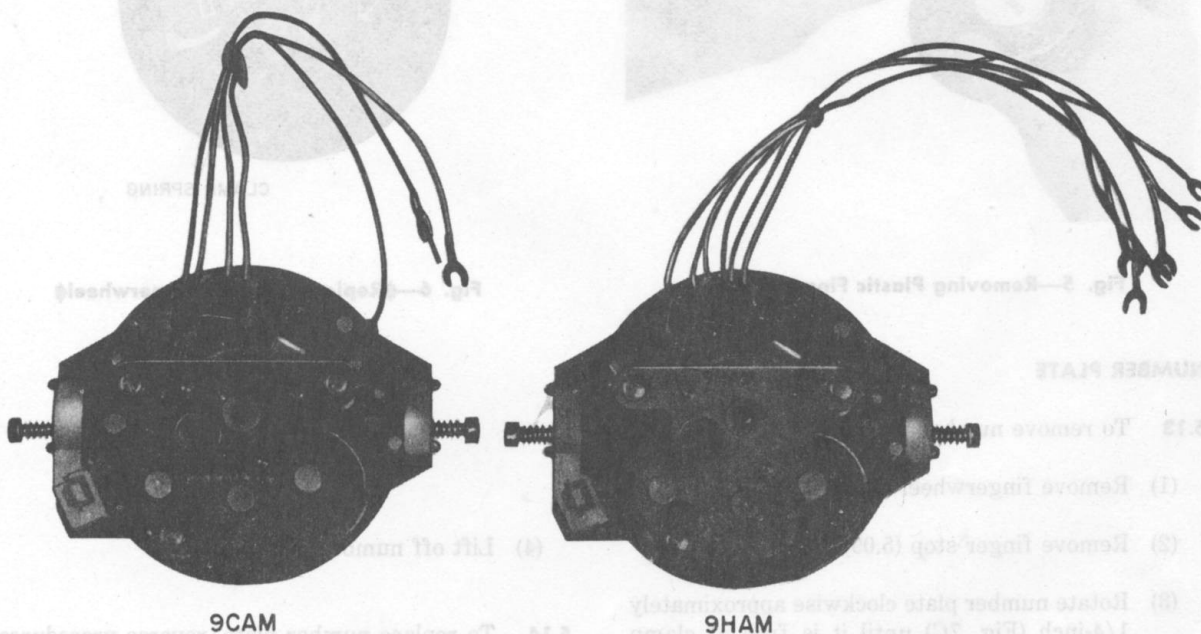

Fig. 3—9CAM and 9HAM Dials, Rear View
- 1.01 This section is reissued to add information for the 9CAM and 9HAM dials, Fig. 3.